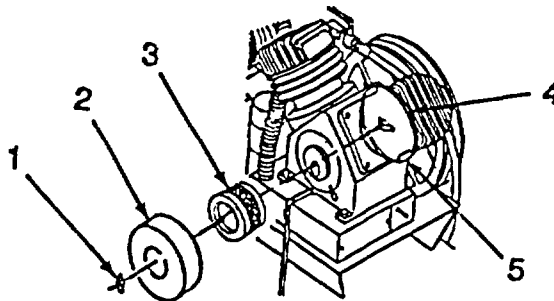

Figure 3-4. Air Filter Replacement
a. Removal. (Refer to Figure 3-4.)
- (1) Remove wing nut (1) from threaded stud.
- (2) Remove cover (2) and air cleaner element (3). Discard old air cleaner element if dirty.